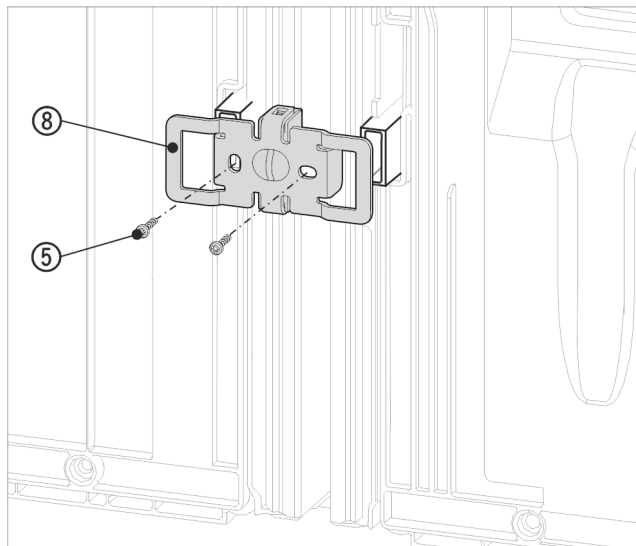

Fig. 18 Example illustration
- Slide the bracket Fig. 18 (8) on once more with the slots over the retainer for the wall spacers.
- Screw in tightly with the 2 screws Fig. 18 (5).